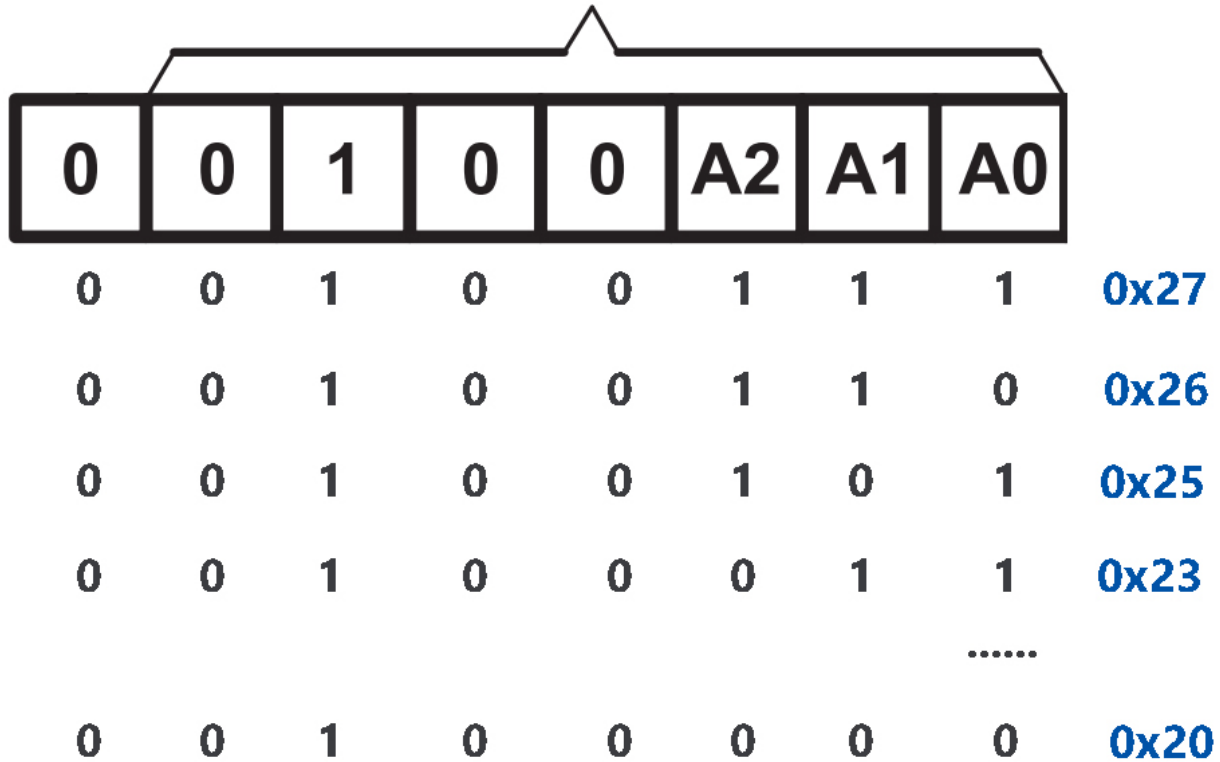

Figure 1: Slave address
- 3. Practical Implementation:** In my setup, I configured each LCD with a unique address. For example, the first LCD remained at the default address (0x27), the second LCD was configured to 0x26 (A0 shorted), the third to 0x25 (A1 shorted), and so forth. This ensured that each display was individually addressable and operable on the same I2C bus as shown in the following Figure 1.